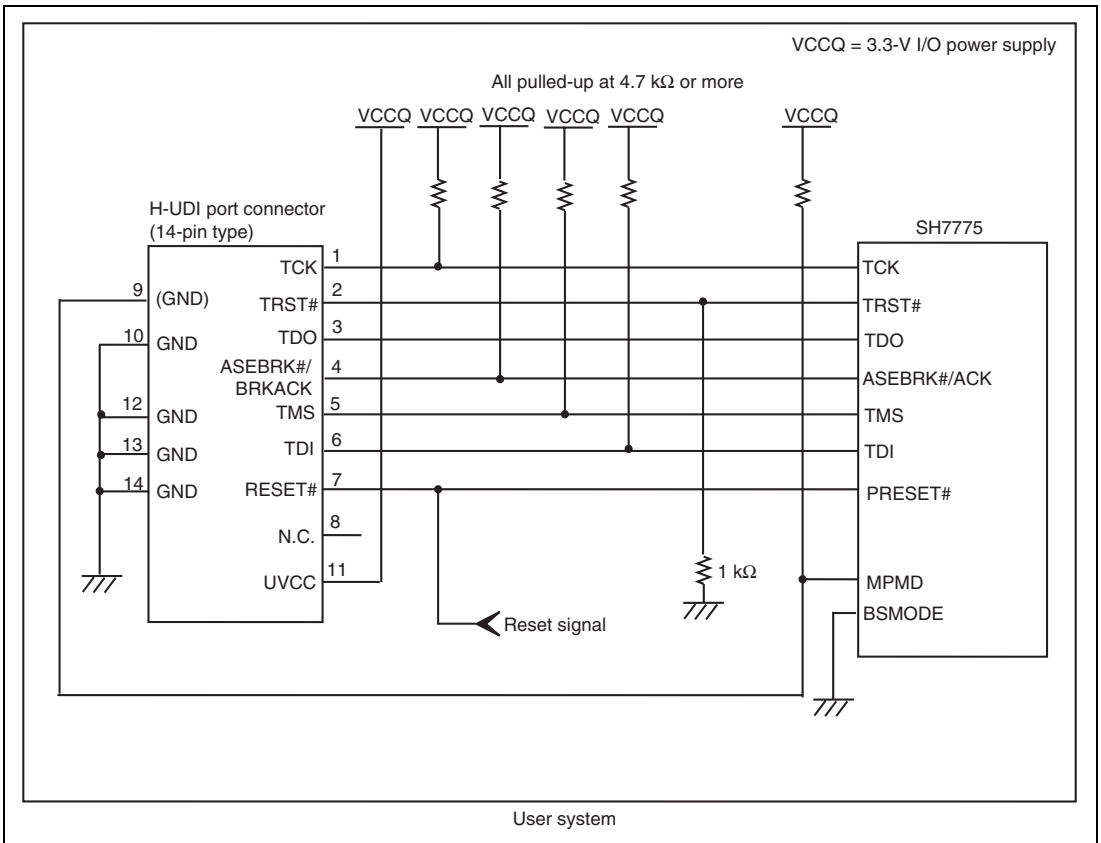

Figure 1.6 Recommended Circuit for Connection between the H-UDI Port Connector and MPU when the Emulator is in Use (14-Pin Type)
Figure 1.6 shows a recommended circuit for connection between the H-UDI and AUD port connectors (14 pins) and the MPU when the emulator is in use.
- (1) When the emulator is used: MPMD = 0
- (2) When the emulator is not used: MPMD = 1Figure 1.6 shows an example of circuits that allow the MPMD pin to be GND (0) whenever the emulator is connected by using the user system interface cable. When the MPMD pin is changed by switches, etc., ground pin 9. Do not connect this pin to the MPMD pin.
6. The resistance value shown in figure 1.6 is for reference.
When the circuit is connected as shown in figure 1.6, the switches of the emulator are set as SW2 = 1 and SW3 = 1. For details, refer to section 3.8, Setting the DIP Switches, in the SuperH™ Family E10A-USB Emulator User's Manual.